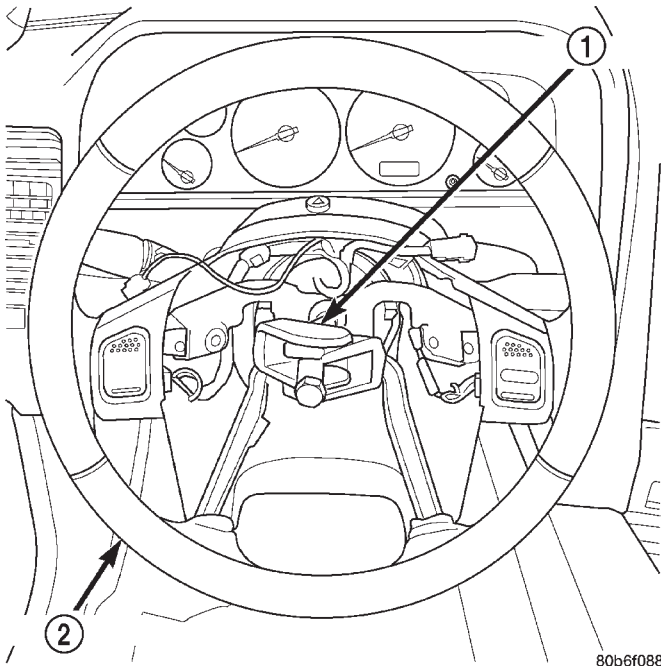

Fig. 2 Steering Wheel Puller
- (1) Position front wheels straight ahead.
- (2) Disconnect and isolate the negative (ground) cable from the battery.
- (3) Remove the airbag, refer to Group 8M Restraint Systems for service procedures.
- (4) Remove the steering wheel nut and remove wheel with Puller C-3894-A (Fig. 2).